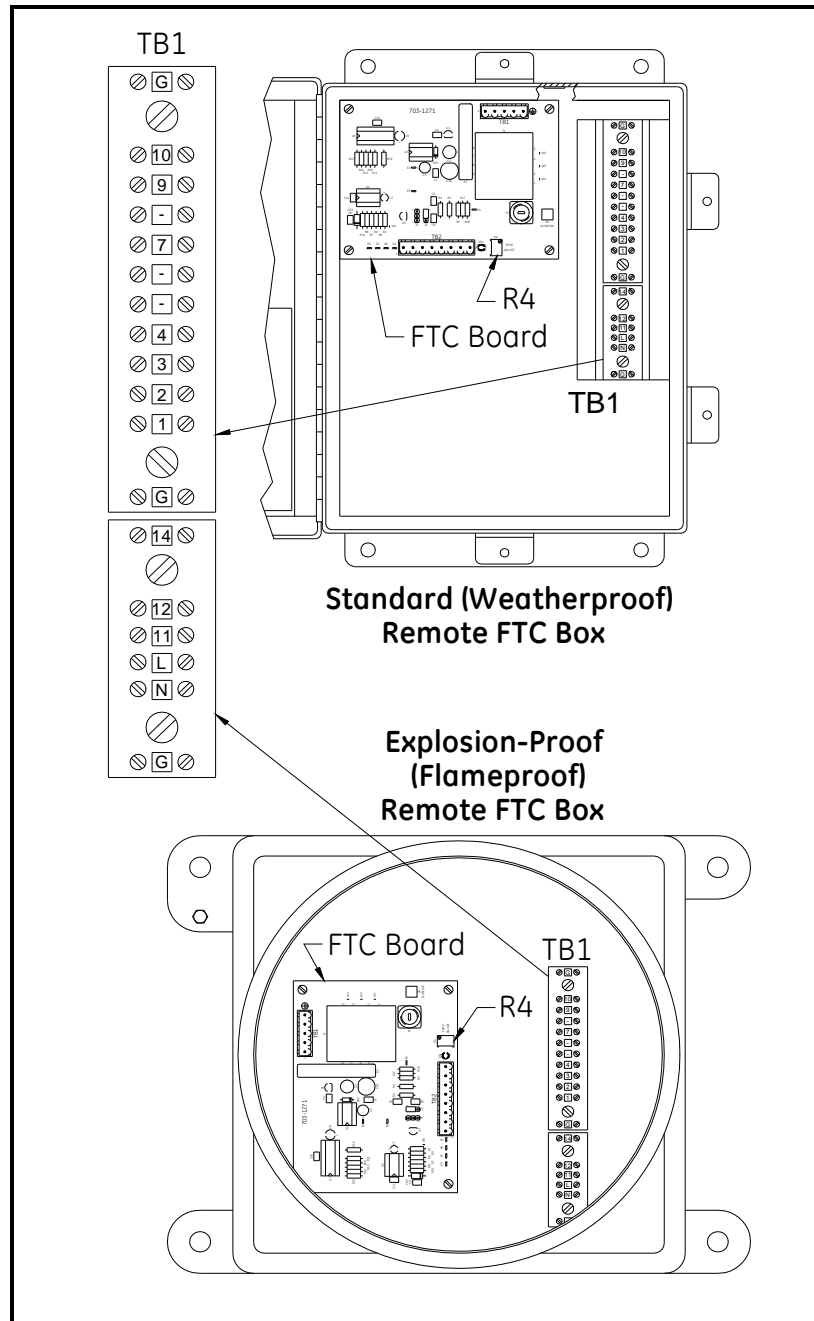

Figure 24: FTC Board (R4) and TB1 Locations
See Figure 24 on page 46 for the location of the terminal blocks.
4. If necessary, adjust the sensor furnace *operating temperature* using potentiometer R4 on the FTC board in the following manner (see Figure 24 on page 46 for the location of R4):